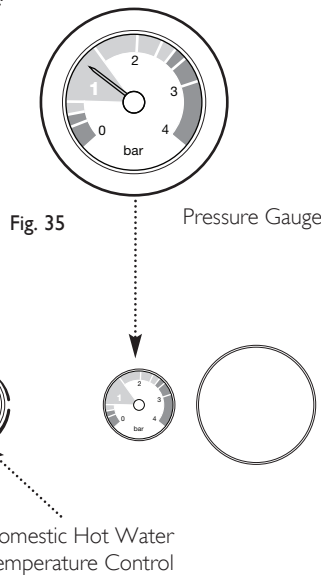

Fig. 35
- Pressurise the system to 1.5 bar (Fig. 35).